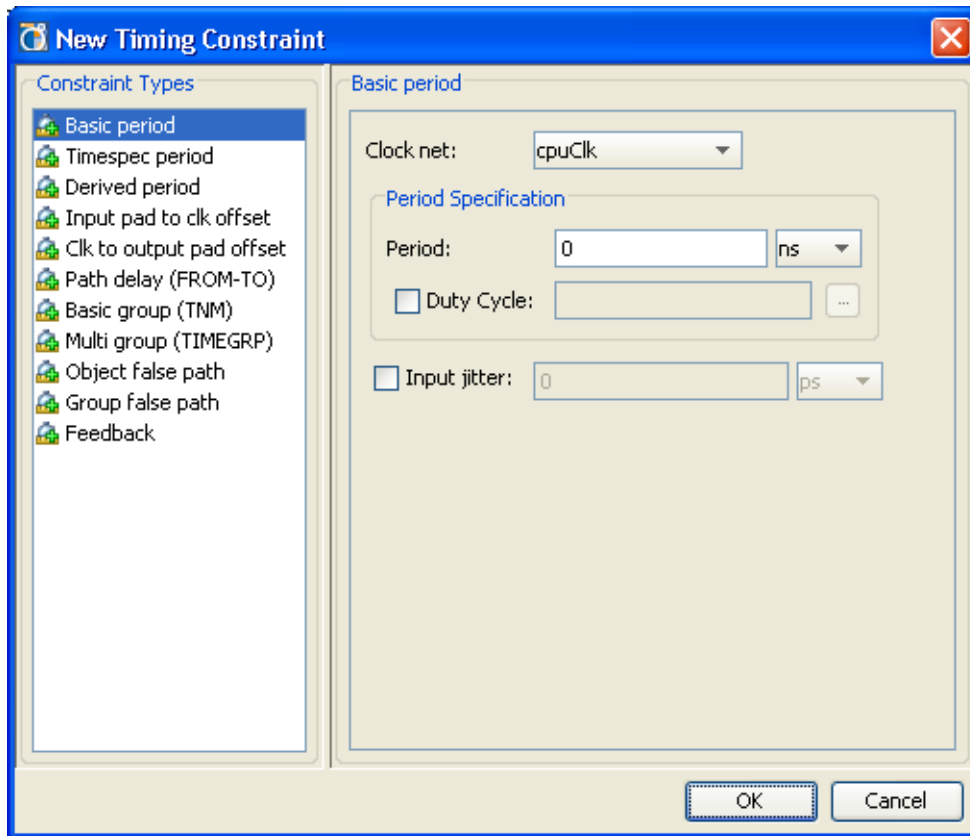

Figure 25: New Timing Constraint Dialog Box
- 6-2-1.** Click the New Timing Constraint button  to open the New Timing Constraint dialog box (Figure 25).